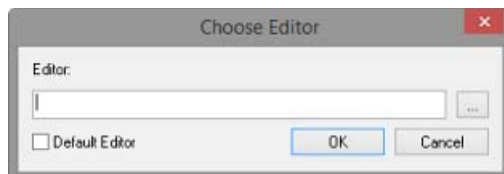

FIG. 430 Choose Editor dialog
3. Click the Browse button (...) to locate and select the desired program's executable (.EXE) file, in the *Open* dialog (FIG. 430):